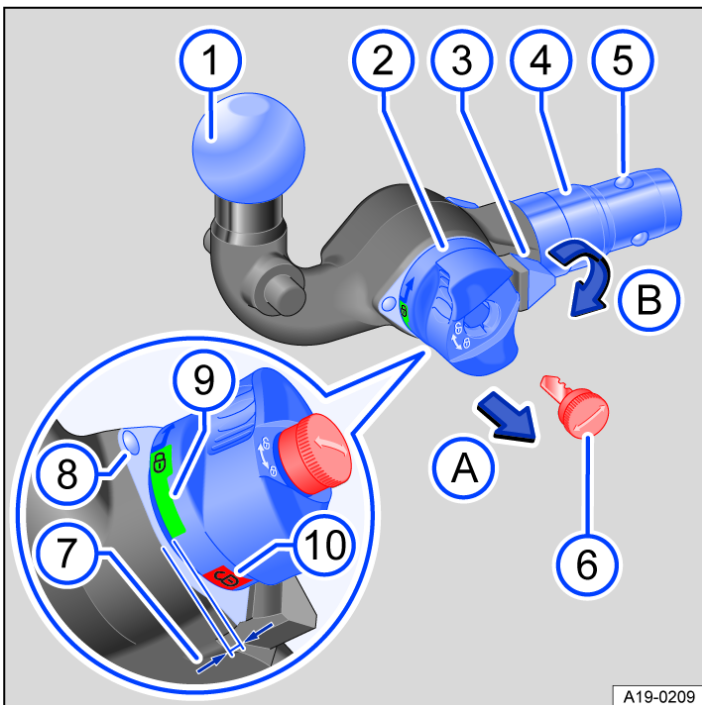

Fig. 2 Overview: removable bicycle carrier preparation.
4. Check to ensure that the mounting, handwheel → Fig. 2 (2), shank (4) and the retaining balls (5) of the bicycle carrier preparation are all clean and not damaged → ⚠. Clean if necessary.